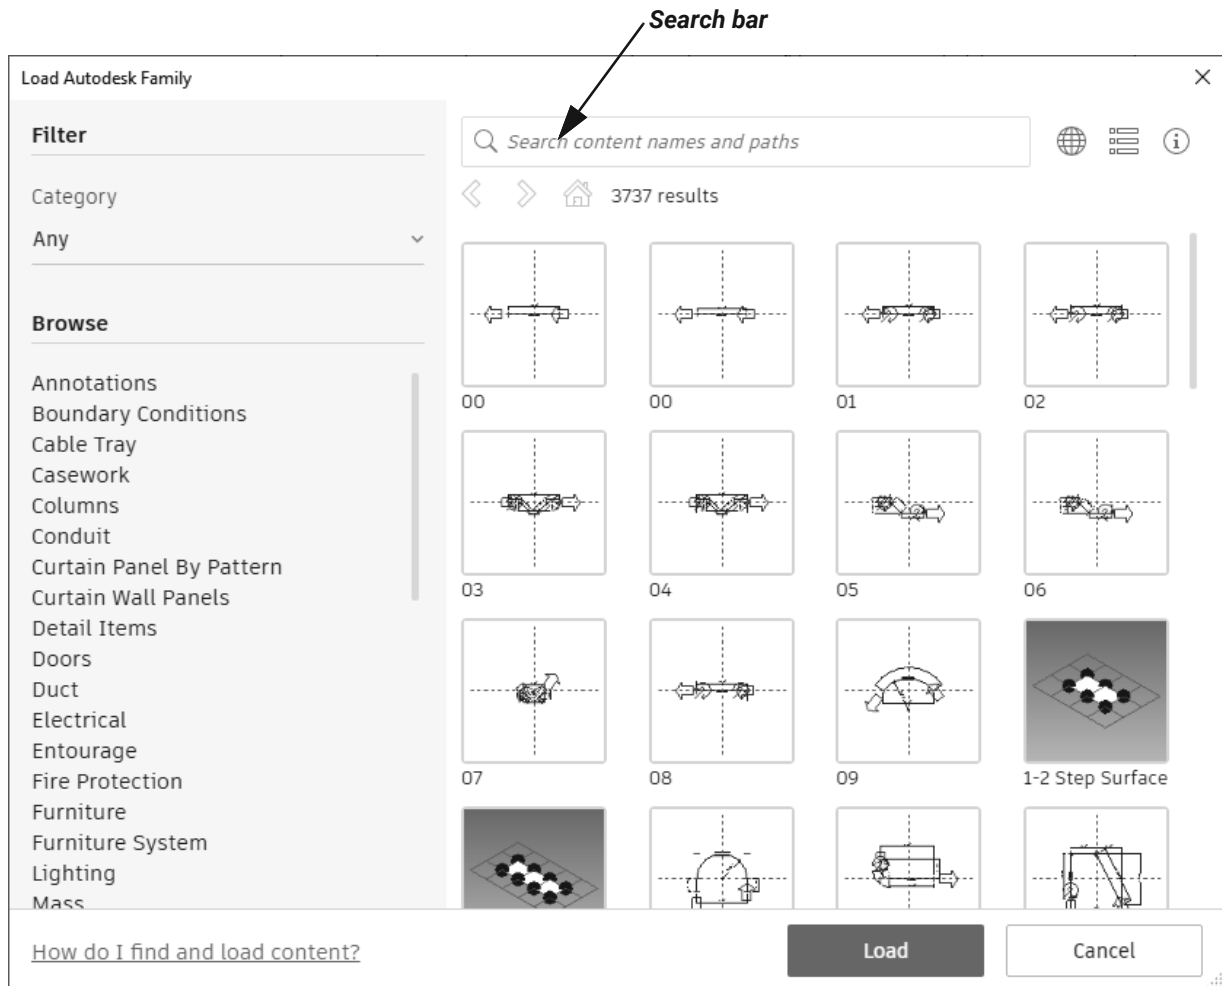

Figure 1–11
2. In the *Load Autodesk Family* dialog box, filter your search by typing in what kind of family you are looking for or click on a category in the *Browse* section, as shown in Figure 1–11.